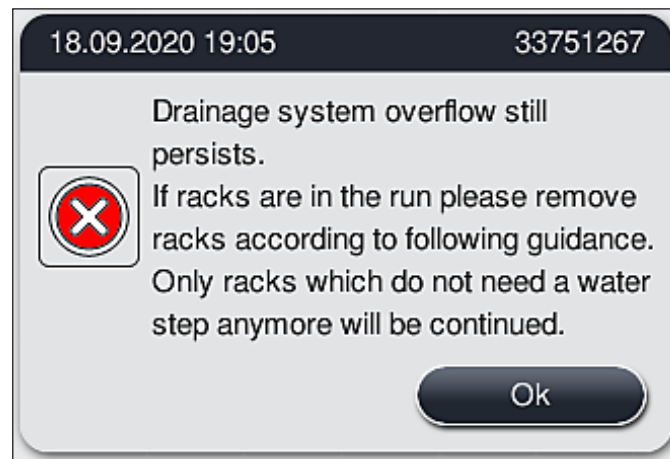

Fig. 125
3. If the blockage can not be removed despite the cleaning measures, the water stations are deactivated due to the persisting critical water level. The water stations are shown as defective on the display. To abort one or more programs, press either (→ "Fig. 123-2") or (→ "Fig. 124-2") to start the controlled abortion process. Programs that do not require a water step are continued until the end of the staining process. Any remaining racks which still require at least one water step must be canceled and removed from the instrument. Confirm the following message (→ "Fig. 125") by pressing **Ok**.